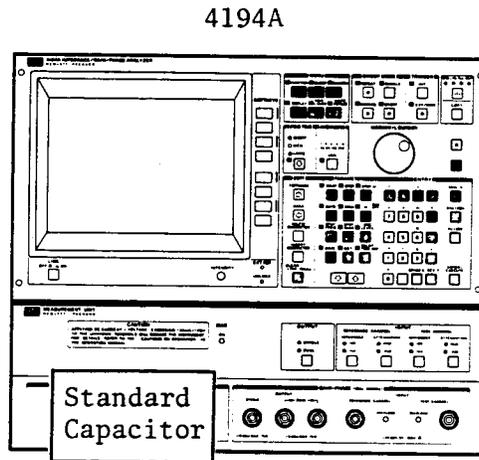

Figure 4-30. Impedance Measurement Accuracy Test Setup 1
5. Connect the **1pF** Standard Capacitor to the **UNKNOWN** connectors as shown in Figure 4-30.